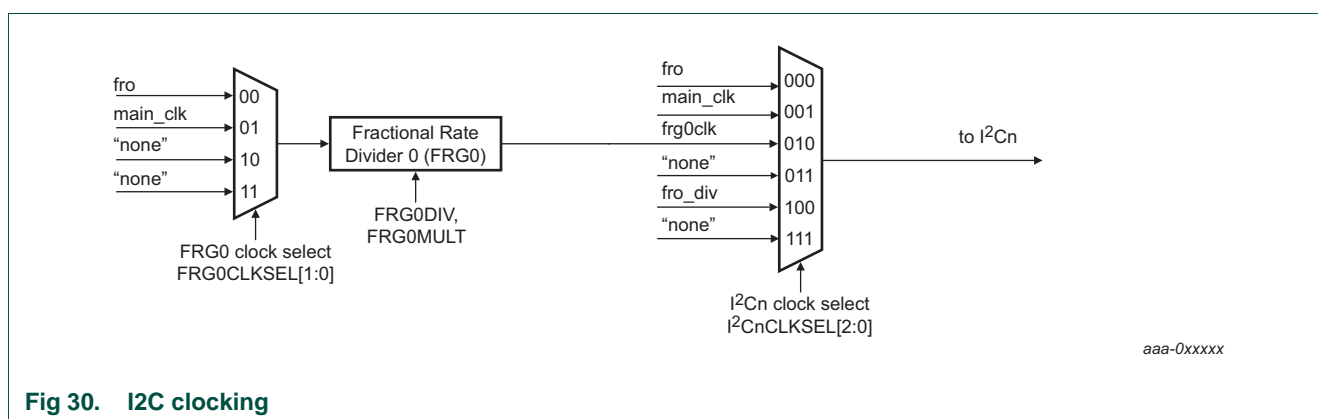

Fig 30. I2C clocking
- The peripheral clock for the I2C (see Figure 30).